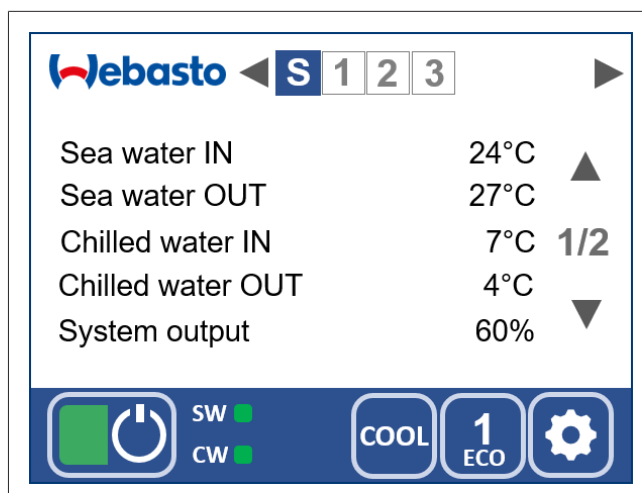

Fig. 3 System display page 1
Use the arrow keys in the upper status line (Fig. 3, item 2) to change the display.